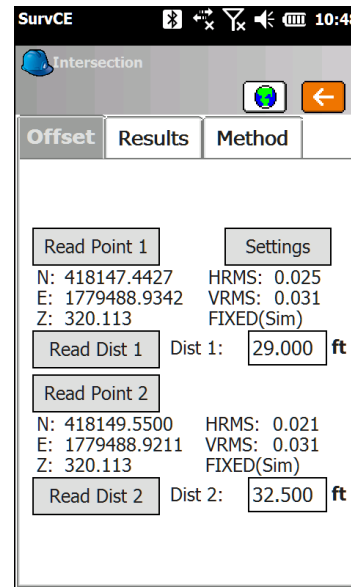

Figure 14
3. Read the second GPS point and then tap the Read Dist 2 button to measure to the feature from this location (Fig.14)